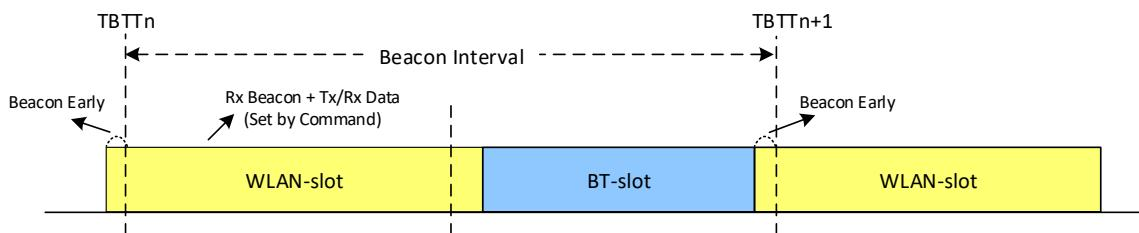
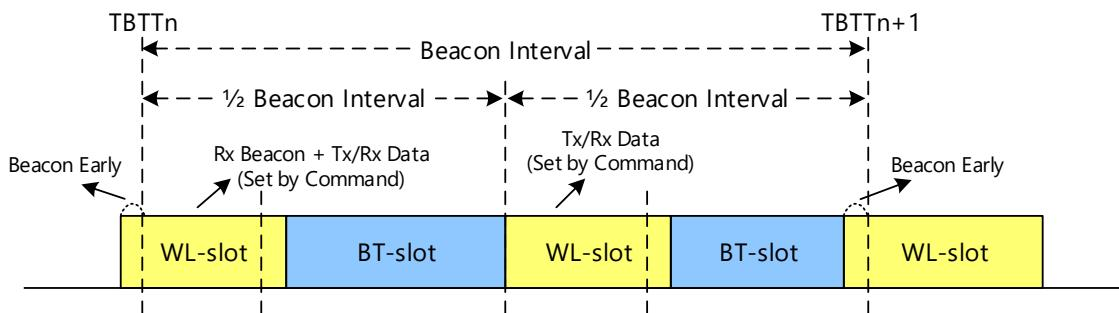

Fig 32-3 TDMA with 2-slot
Fig 32-4 TDMA with 4-slot
In most cases, we use 2-slot and 4-slot TDMA to share RF usage. Fig 32-3 and Fig 32-4 demonstrate TDMA with 2-slot and 4-slot mode separately. Regardless of the working modes of Ameba-D, whether in station (STA) mode or access point (AP) mode, both 2-slot and 4-slot TDMA can be applied. In this demonstration, we take 2-slot TDMA into STA scenario, while 4-slot TDMA into AP scenario for the sake of discussion.